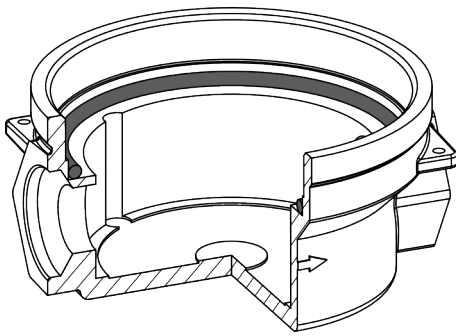

Figure 12. Installation of the gasket WE1
1. Insert the enclosed O-ring into the EAT and press it on (Fig. 12).